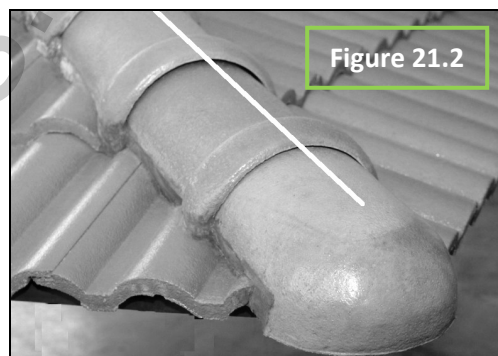

Figure 21.2
- ✚ Install the next hip ridge after the hip starter. Making sure that the mid-points which are marked earlier meets up in a straight line (*Fig. 21.2*).
- ✚ Extend a string from one end of the hip starter to the roof apex. Proceed to lay the rest of the hip ridge using the marked collar / head or the centre of the ridge as a reference to the extended string (*Fig. 21.2*).